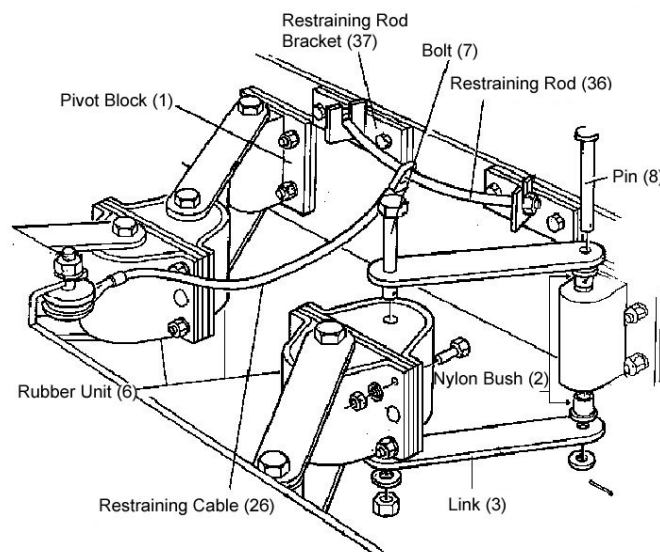

Figure 1: Arrangement of Flexitor Linkage
NOTE: It is important that the retaining bolts (7) and pins (8) are fitted from the top (see Figure 1). If the nuts are fitted at the top, there is a risk of damaging the rubber diaphragm.
9. Assemble links to rubber units using special bolts (7) (see Materials item 1) fitted from the top and M12 spring washers and nuts fitted from the underside (see Figure 1). Tighten in accordance with Torque Figures item 1. The links are handed and must be assembled as shown in Figure 2.